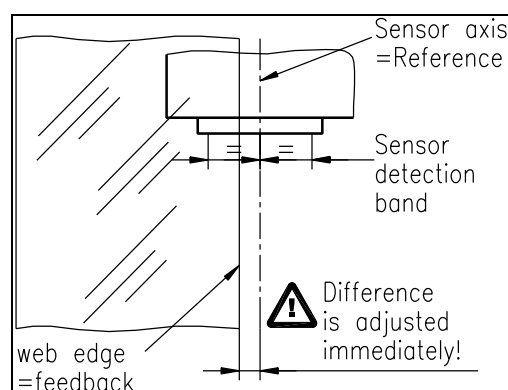

Fig. 18: Position at automatic start K 100005e
- Start automatic mode with  key or digital input. Reference position is taken from the middle of the sensor detection band (**Fig. 18**). Using center guide, reference position is in the middle between the 2 sensor axis. The controller starts to guide the web to reference position and to hold this guide point.